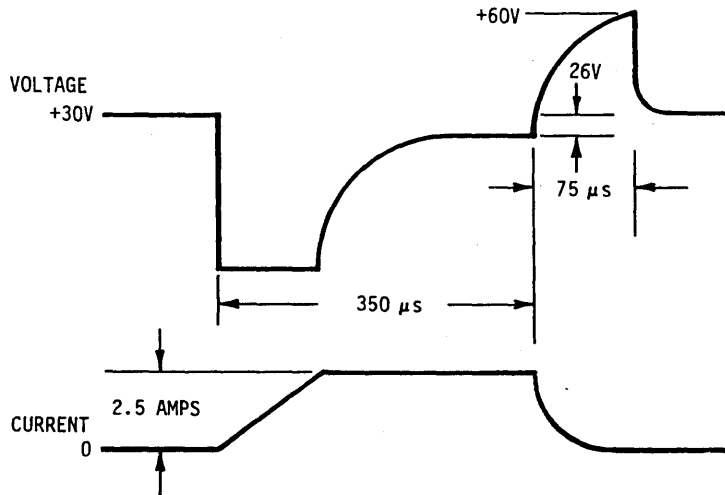

Figure 4-20. POWER DRIVER WAVEFORM
4.5.6.1 Solenoid Drivers (Figure 4-20)
When CG1 goes inactive low, Q3 turns off, turning off Q2 and Q1. When Q1 turns off, the solenoid current flows through CR2 and C1. The value of C1 is chosen to act as a parallel resonant circuit with the inductance of the solenoid. Diode CR2 allows only a quarter-wave of the resonant frequency. A waveform diagram is shown in Figure 4-20.